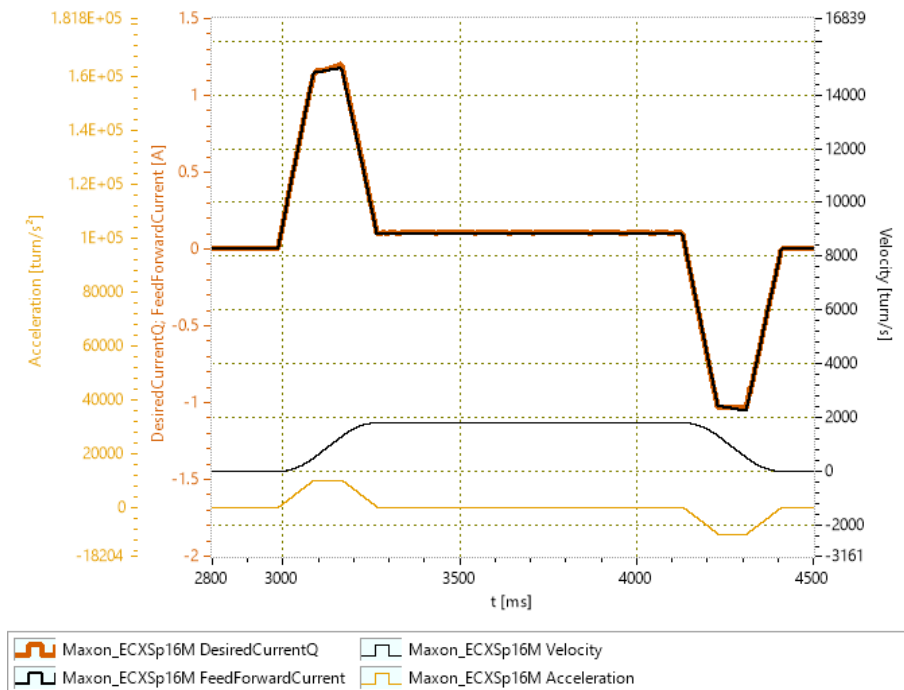

Figure 10: Optimized FeedForwardCurrent to match ActualCurrentQ.
2. Run the scope and accelerate the motor to the maximum speed and decelerate the motor to zero afterwards. Adjust the parameter FeedForwardAcceleration to match FeedForwardCurrent as good as possible with ActualCurrentQ during acceleration and deceleration (Figure 10).